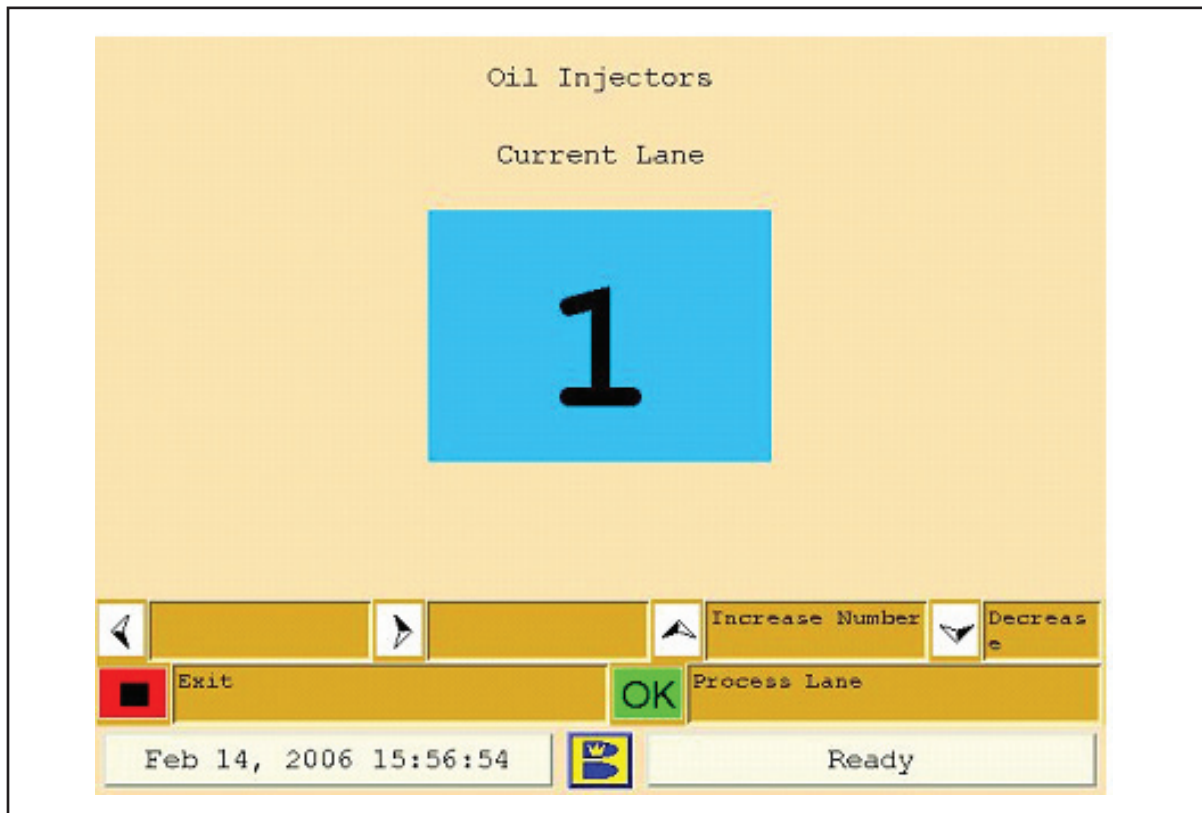

Figure 5-32. Oil Injectors
4. Select the Oil Injector test, press “OK” and the following screen will appear (“Oil Injector” will appear at the top of the screen for the injector test). Refer to Figure 5-32.